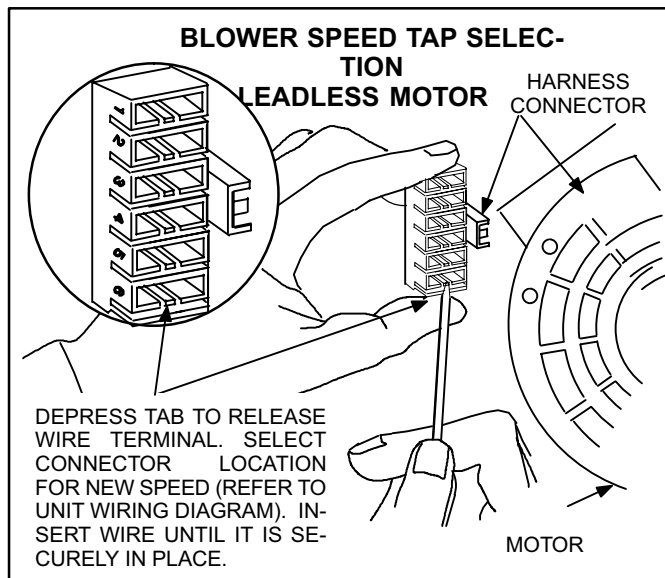

FIGURE 23
- 5 - Depress harness connector tab to release wire terminal. Select connector location for new speed (refer to unit wiring diagram). Insert wire terminal until it is securely in place. See figure 23.